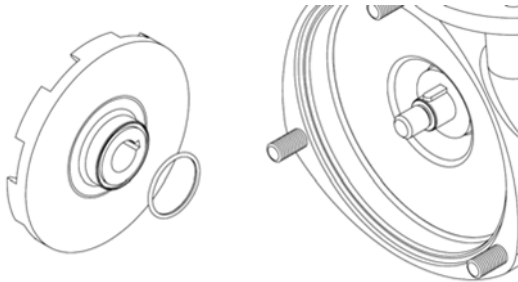

Figure 25
8. Install the impeller o-ring into the back of the impeller (SB models only) Figure 25.